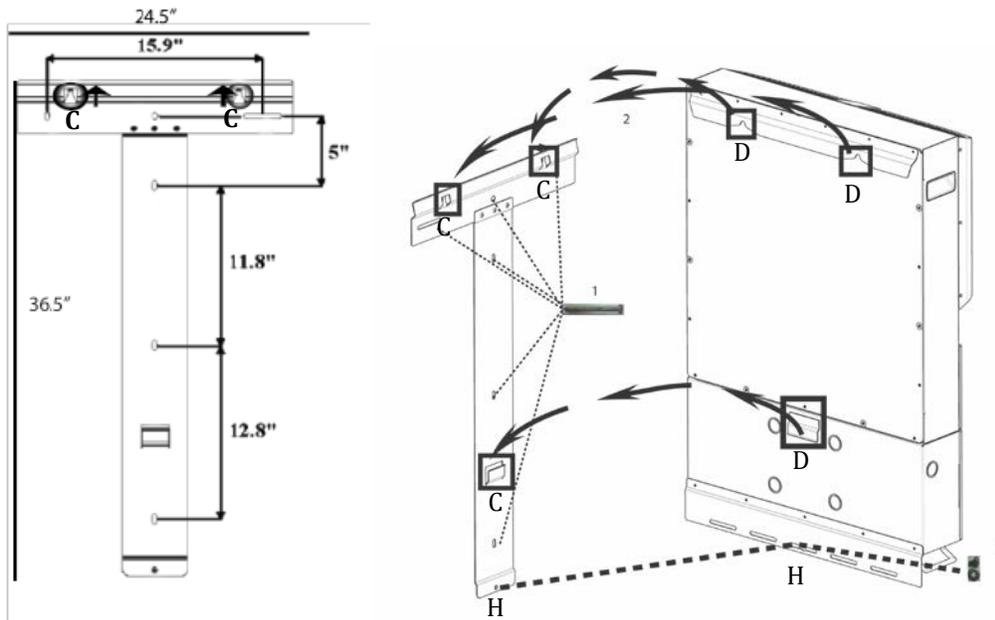

Figure 2.01 - Bracket and Mounting Details PVI-10.0-I-OUTD-S1-US/CAN-XXX-YY
Step 2: Orient the bracket on the mounting surface such that the “C” hooks face outward and upward (Figure 2.01).
Step 3: Using the hardware provided, mount the bracket using mounting holes shown in Figure 2.01.